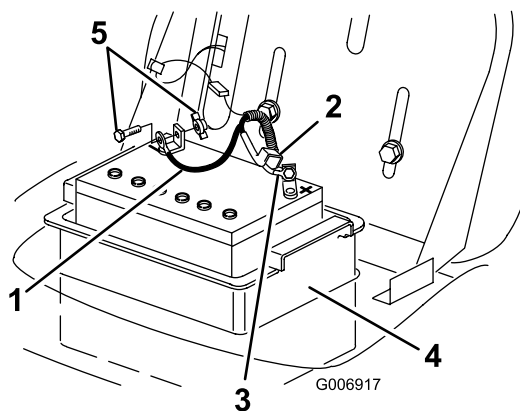

Figure 26
4. Disconnect the negative (black) ground cable from the battery post (Figure 26).
5. Slide the rubber cover up the positive (red) cable. Disconnect the positive (red) cable from the battery post (Figure 26).
6. Remove the battery box and battery from the chassis (Figure 26).
1. Put the battery into the battery box and install it into the chassis (Figure 26).
2. Using the bolt and wing nut, connect the positive (red) cable to the positive (+) battery post (Figure 26).
4. Using the bolt and the wing nut, connect the negative (black) cable to the negative (–) battery post (Figure 26).